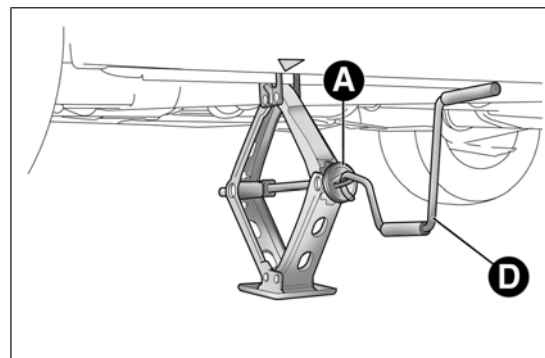
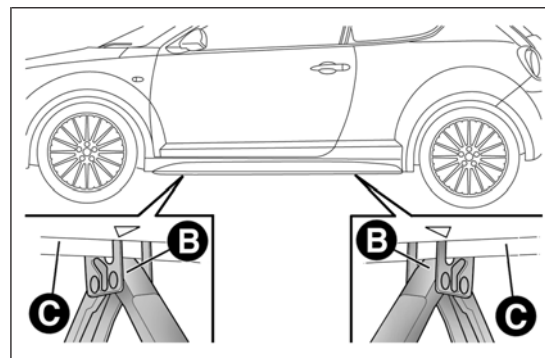

fig. 118
fig. 119
- ❑ operate the device A fig. 118 so as to extend the jack, until the upper part B fig. 119 is inserted correctly inside the side member C;
- ❑ fit handle D fig. 118 into the housing in device A, operate the jack and raise the car until the wheel is a few centimetres from the ground;
- ☐ operate the jack handle D fig. 118 to lower the vehicle. Then extract the jack;